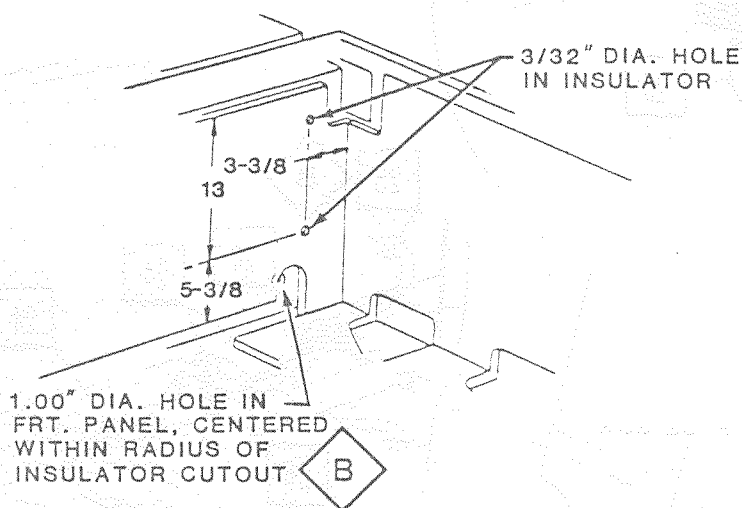

Figure 5.
17. Drill holes in cargo box floor for heater, as per template (Figure 5.). Instructions are printed on template.
26. Using hole in front insulator as template, center punch and drill a 1 inch hole (Figure 5.).
27. Drill two 3/32 inch holes in front insulators (Figure 5.).